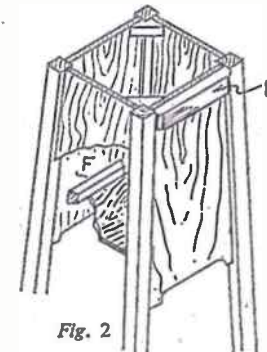

Fig. 2
The three rails (C), (D) and (E) are all 36 ins. long, (C) and (D) being cut from 1/2 in. wood, and (E) from 1 in. The widths are as follows: (C)—2 ins., (D)—3 1/2 ins. and (E)—2 1/2 ins. Nail the sides to these three rails and then nail the floor in position as shown in the cut-away view at Fig. 3. The back, piece (H), is pinned to (C) and (D) as shown in Figs. 2 and 3.
To strengthen the sides, and form a rest for the lid, two rails (F) are screwed in position as shown in Fig. 2. They should be 1/2 in. down from the edge. The ends should be trimmed to fit in with rails (D) and (E).
When the glue is quite hard, stiffen the structure with corner blocks, as shown in Fig. 2. Quite small blocks should be used here to allow of sufficient